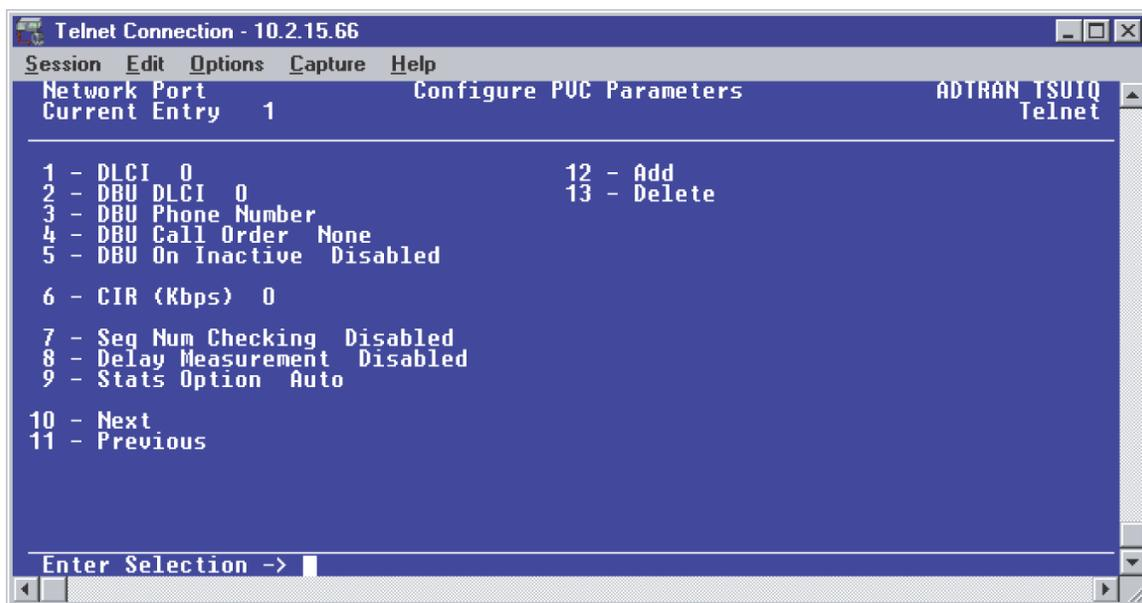

Figure 30. Configure PVC Parameters Menu
2. From this menu, select 9, **PVC OPTIONS**. Press **<ENTER>** and the screen shown in Figure 30 is shown.